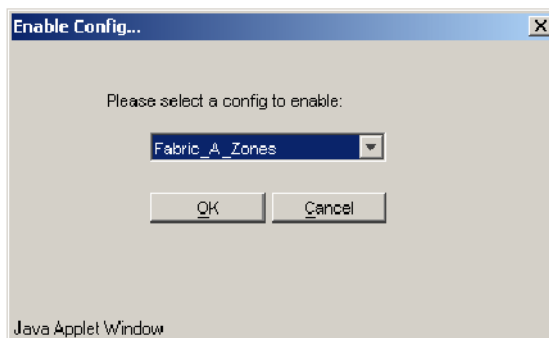

Figure 5-41 Enabling a zone config
10. Click **Action** in the top toolbar of the Zone Management window and select **Enable Config**. Then select **Fabric_A_Zones** (Figure 5-41) and click **OK**.